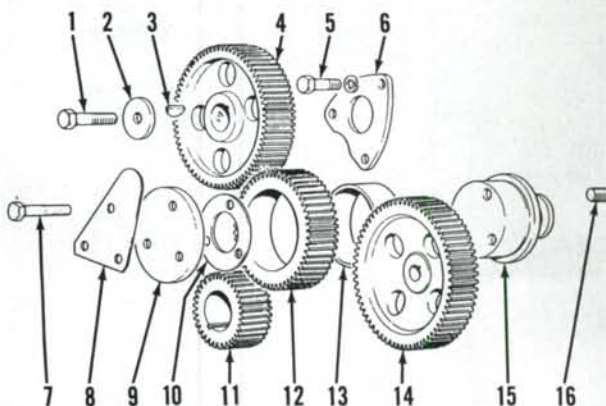

Fig. 89—View showing timing gears and related parts used on six-cylinder engines.
95. Timing gears on the six-cylinder engine used in these models consist of crankshaft gear (11—Fig. 89), camshaft gear (4), fuel injection pump drive gear
Idler shaft (15—Fig. 89) diameter should be 76.14-76.16 mm (2.997-2.998 inches). Inner diameter of idler gear bushing (13) should be 76.20-76.24 mm (3.000-3.001 inches). Desired shaft to bushing operating clearance is 0.04-0.10 mm (0.001-0.004 inch).
Install idler gear retaining plate (9—Fig. 89) with shims (10) which were removed during disassembly. Install special tab washer in position as shown in Fig. 92. Tighten retaining bolts to 20 N·m (15 ft.-lbs.) torque, then check clearance between idler gear and retaining plate with a feeler gage. End clearance should be 0.05-0.10 mm (0.002-0.004 inch). Adjust by adding or removing shims (10—Fig. 89) as necessary. When clearance is correct, bend tab washer against bolt heads to secure.